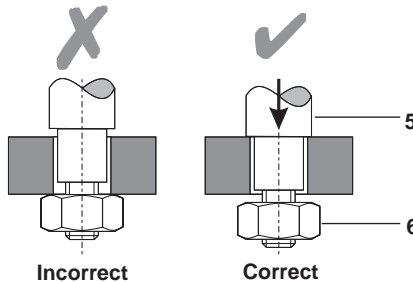

Fig. 4
- Screw the valve linkage (3) onto the valve stem at least one thread diameter and loosely tighten the stem lock-nut (4).
- Fit 4 off pillars (5) and retain with nuts (6, see Fig. 4), tighten to 300 N m
- Screw the anti-rotation plate (7) onto the actuator stem until the stem is engaged at least one thread diameter. Tighten lock-nut (11) M20 to 400 N m, M36 to 1000 N m.
- Align the anti-rotation plate over the pillars and lower the actuator onto the pillars, ensuring the pillars are fully engaged and clearance exists between the anti-rotation plate (7) and the valve linkage (3).
- Fit and tighten pillar nuts (see Fig. 4) to a torque of 300 N m.
- Align the anti-rotation plate and valve linkage so the fixing holes will accept the four (M10 x 35 long) coupling cap head screws (8) and tighten to a torque of 70 N m.
- Tighten valve lock-nut (4) to 200 N m.